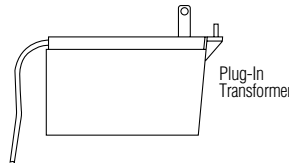

Figure 6
**Plug In Transformer** (see figure 6). This type of Transformer is designed to be plugged into a 110V AC wall outlet. Transformer is supplied with a 10' wire, which can be shortened or lengthened to meet installation requirements using 22 gauge bell wire. Connect the feed wires to the screw terminals on the secondary side of the transformer. To avoid permanent damage to the transformer, sensor or solenoid valve, do not plug transformer into outlet until all wiring has been completed!